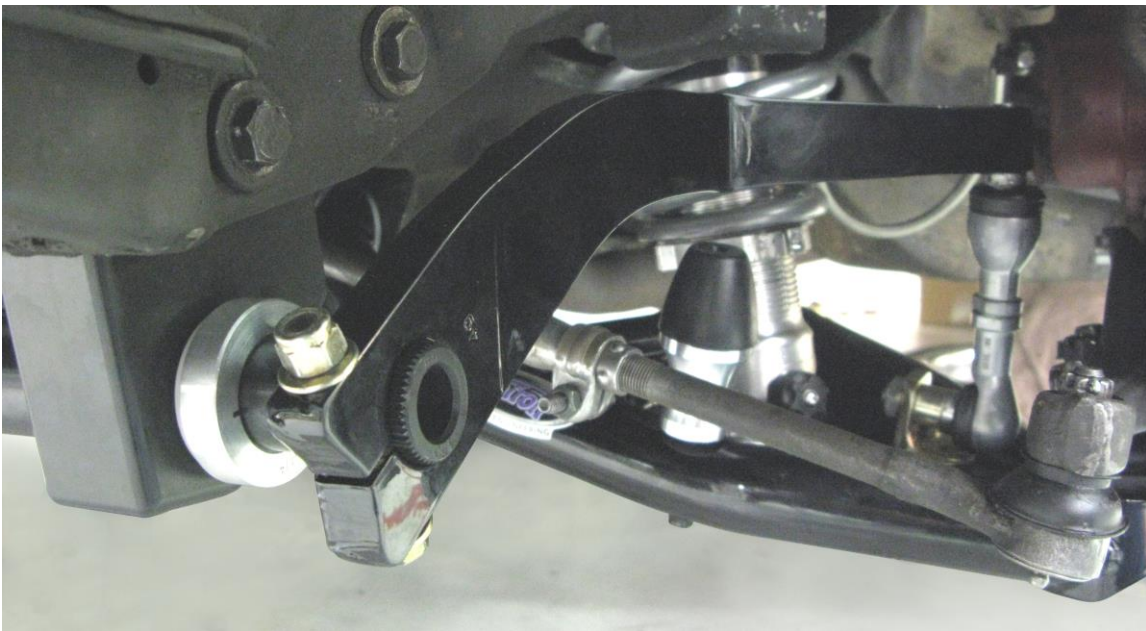

Figure 2 - Completed Installation
13. The installation is now complete. The completed installation is shown in Figure 2.